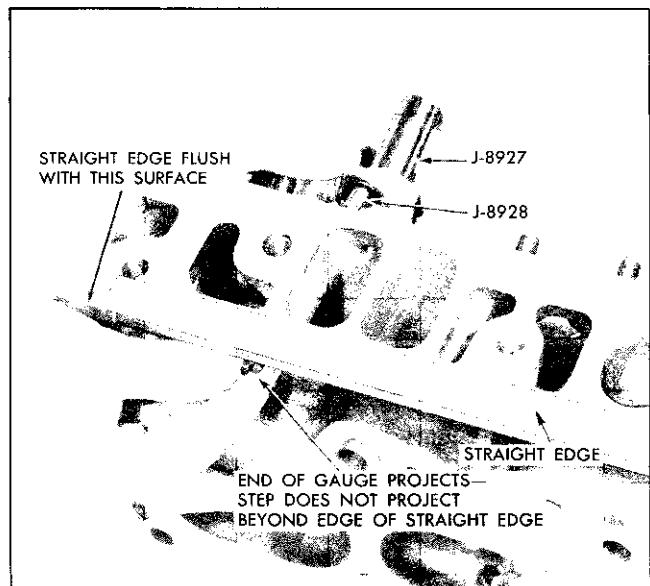

Fig. 6-86 Checking Stud Height
When installing new head, transfer all serviceable parts to new head, using new seals on intake and exhaust manifold valve stems, and new exhaust manifold gasket. Install new intake manifold gasket plastic retainers. Clamp straight edge into position as shown in Fig. 6-86 and check rocker arm position with valve train gauge J 8928.
14. Clamp straightedge on cylinder head as shown in Fig. 6-86, and position valve train gauge J 8928 in push rod hole so that it seats properly in rocker arm.
15. With valve seated, slowly drive rocker arm stud into cylinder head until gauge projects about midway between end of gauge and step with respect to straightedge (Fig. 6-86).